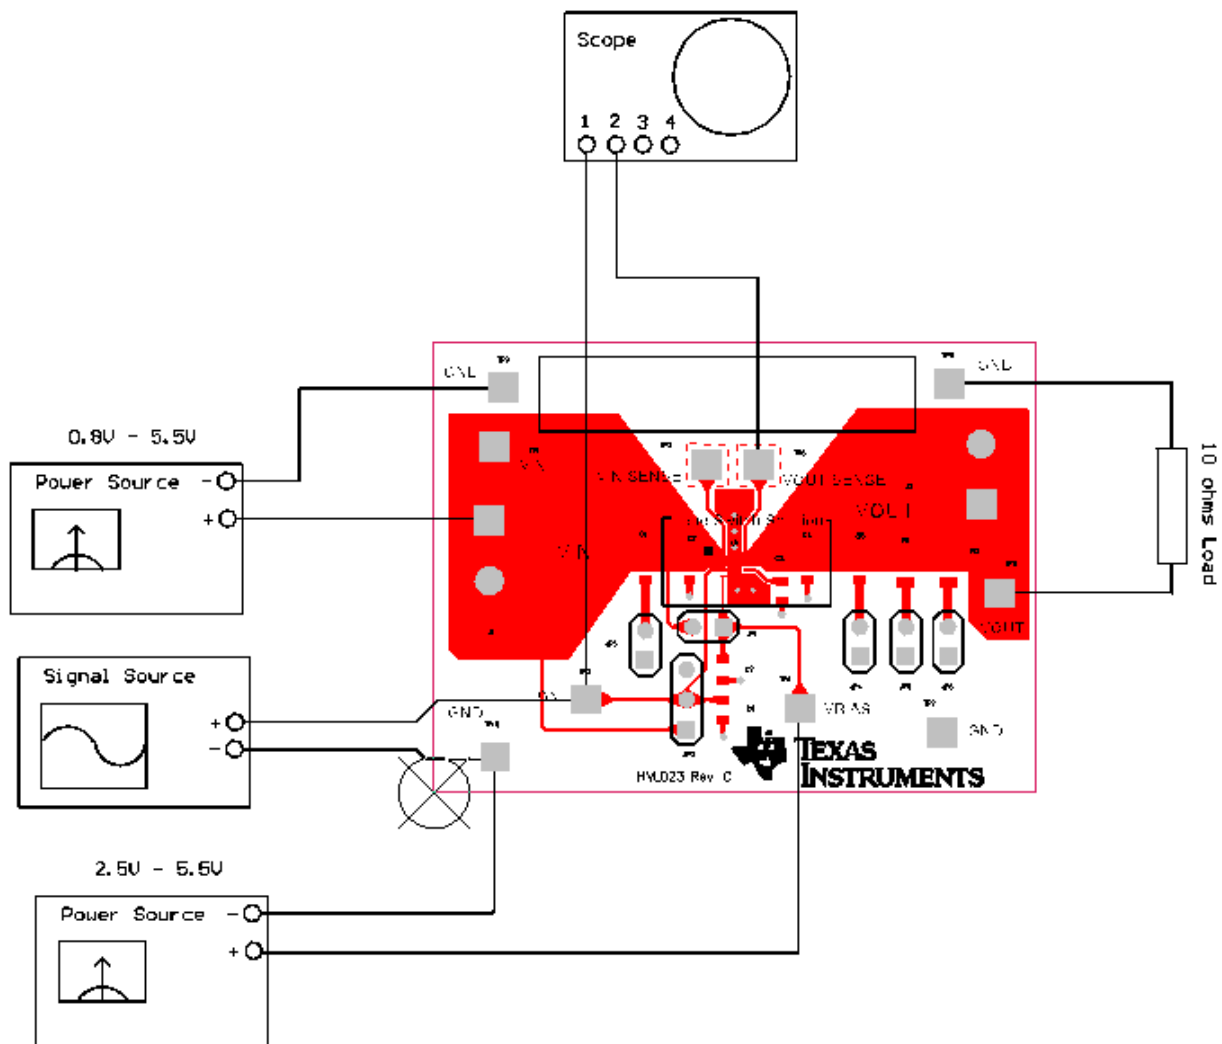

Figure 6. TPS22967EVM-023 Recommended Rise Time Test Set Up
1. Set up the EVM per Figure 6.